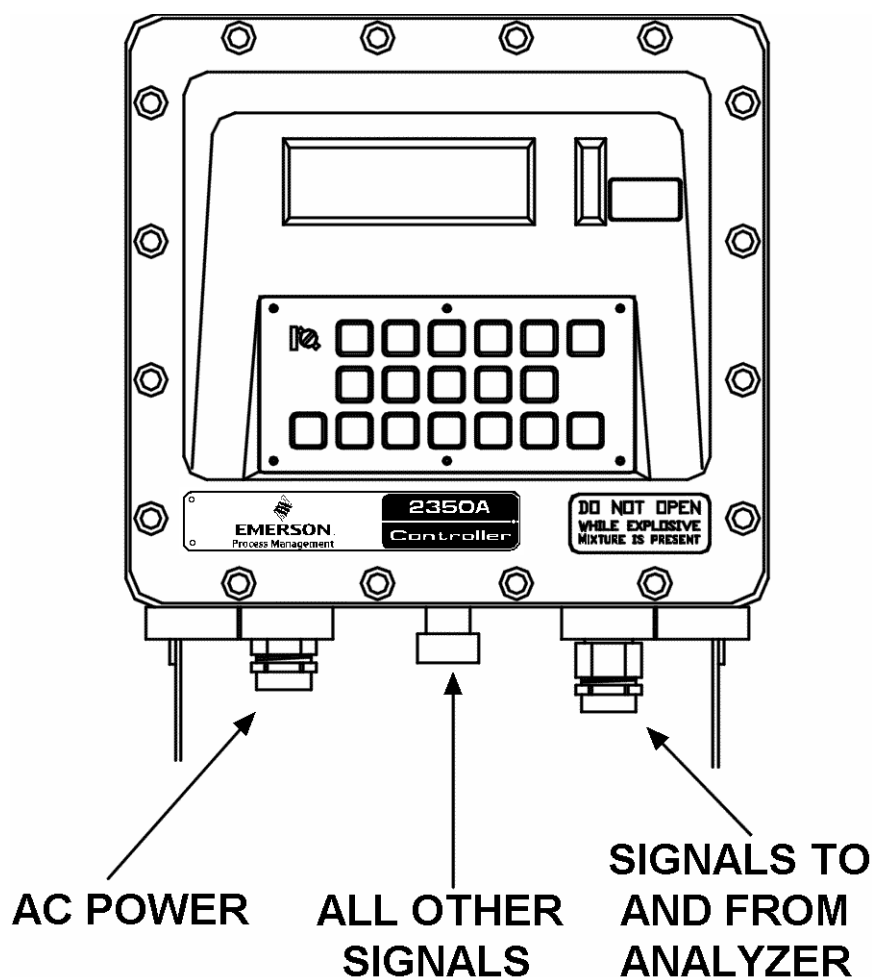

Figure 3-1. Separate Conduit Entries
5. Use separate conduits for AC voltage and DC voltage circuits (see Figure 3-1).
6. Do not place digital or analog I/O lines in same conduit as A-C power circuits (see Figure 3-1).